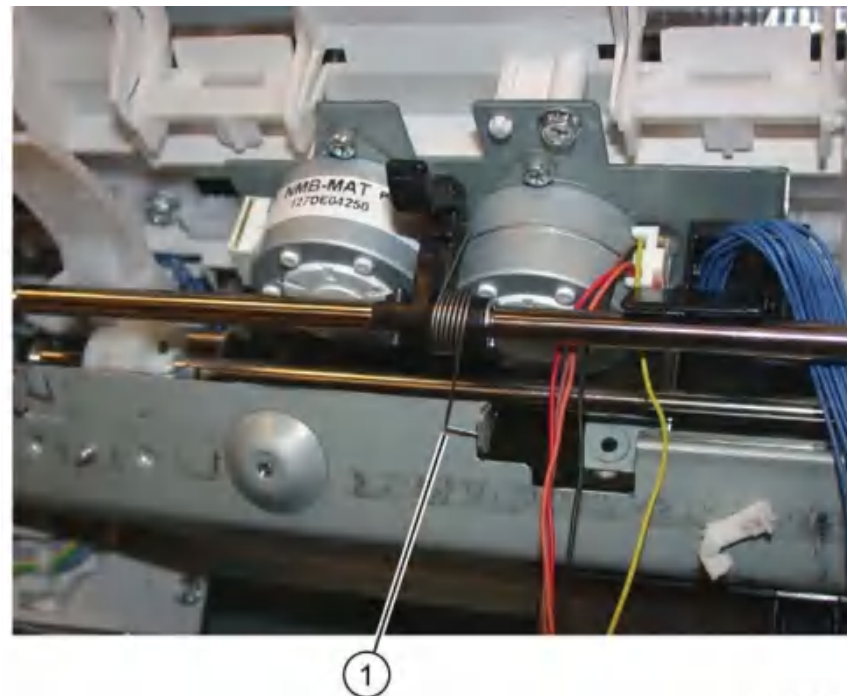

Figure 4 Set clamp holder springs
12. Disengage the three springs (1) from the set clamp holders, Figure 4.